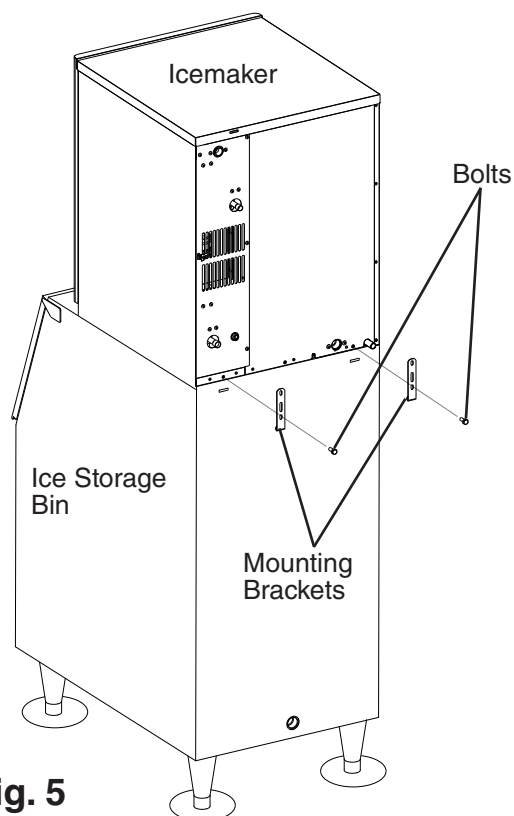

Fig. 5
- 6) Secure the icemaker to the dispenser unit/ice storage bin using the standard mounting brackets and the machine bolts provided. See Fig. 5.